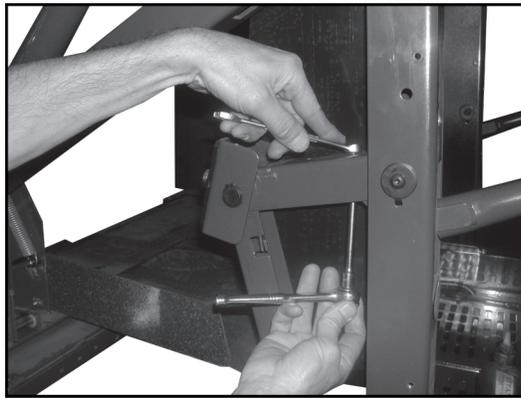

FIGURE 3-24
3. Refer to **Figure 3-24**. Remove nut and bolt to detach left hand armrest from knuckle arm assembly.